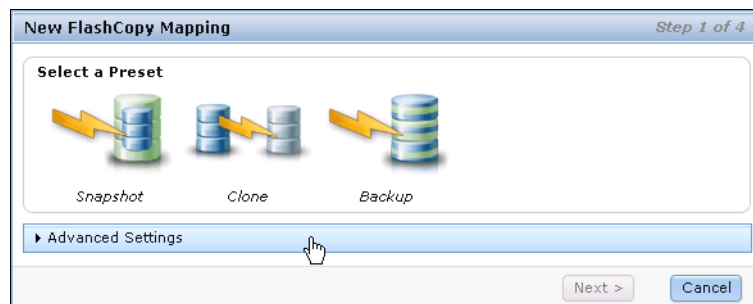

Figure 9-15 Choose a preset most similar to your requirement
- a. After you click **Create new target volumes**, the wizard lets you choose the preset, but no matter which preset you choose, you can modify the setting of the FlashCopy mapping. Choose one preset that has the most similar configuration to the one required, and click **Advanced Settings** to make any appropriate adjustments on the properties (Figure 9-15).